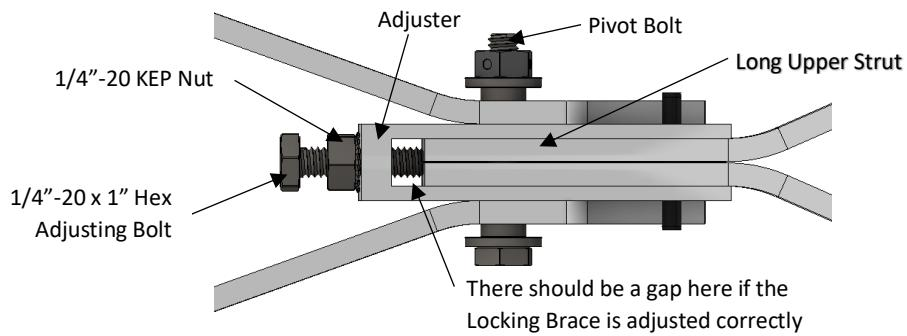

Figure 2
3. Using a 7/16" wrench, loosen the 1/4"-20 KEP nut on the adjusting bracket of the first Locking Brace Assembly to be replaced as indicated in Figure 2.
4. Loosen 1/4"-20 x 1" hex bolt (Figure 2) until the tension in the Locking Brace Assembly is relieved and the pivot joint of the Locking Brace Assembly moves freely.
1. With the WAL-BOARD® Aluminum Folding Bench upside down on a flat level surface and the Permanent Leg Assemblies in their fully open position locate the adjuster on one of the Locking Brace Assemblies indicated in Figure 2.
2. With the Permanent Leg Assembly in its fully open position, loosen the 1/4"-20 KEP nut a few turns as indicated in Figure 2.
3. While maintaining the center pivot joint of the Locking Brace Assembly in its fully extended position, thread in the 1/4"-20 x 1" hex adjusting bolt until the threaded end of the bolt is finger tight against end of the long upper struts as indicated in Figure 2.